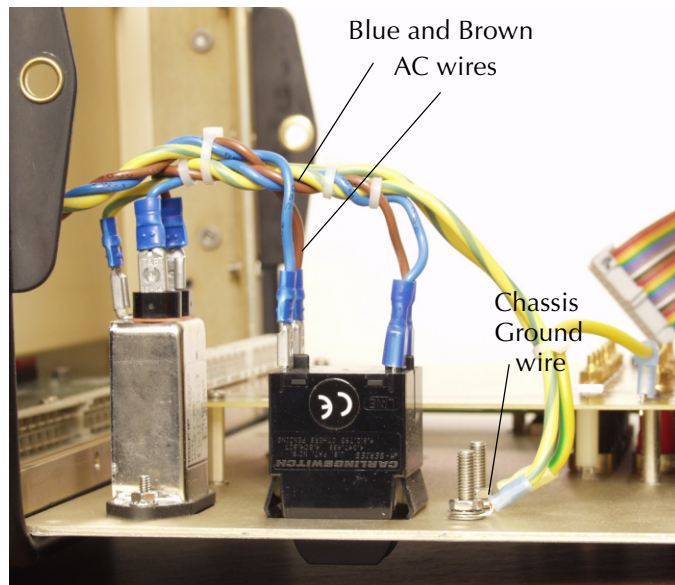

Figure 5.7 Location of the AC Leads and the Ground Wire
10. Disconnect the ground wire (Figure 5.7).